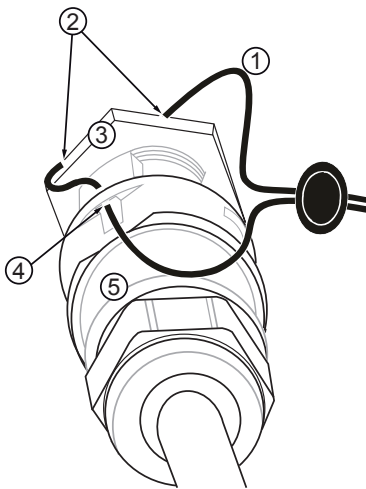

Fig. 11: Sealing of the AC connection using tamper seal wire
4. Seal the AC connection as required. To do this, feed the tamper seal wire ① through the counter-nut ③ of the AC socket on the inverter (the counter-nut has a hole ②) and through the opening ④ in the opposing plug ⑤ according to Fig. 11.